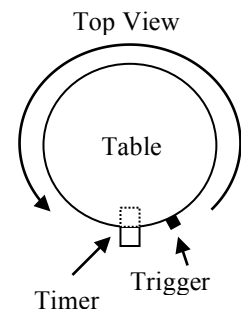

Figure 4.3
2. Place the timer's photogate on one side of the table's trigger. Set the timer's mode to pendulum. (See *Figure 4.3*.)